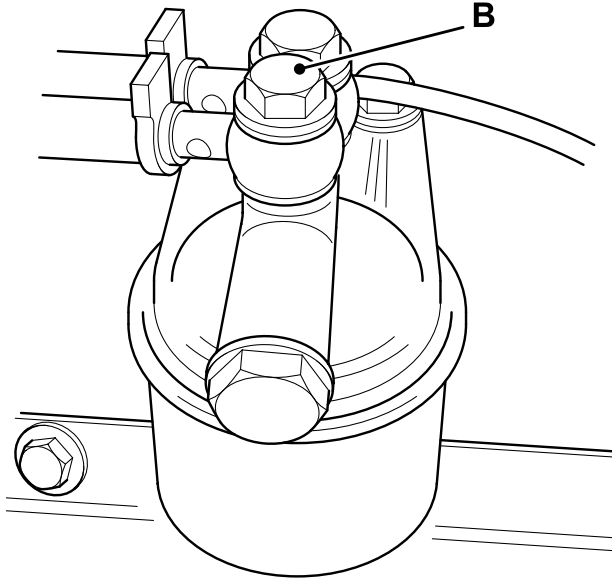

Fig 93. Fuel Filter Bleed Bolt
- 5 Slacken banjo bolt **B**. → Fig 93. \(□ 249\)